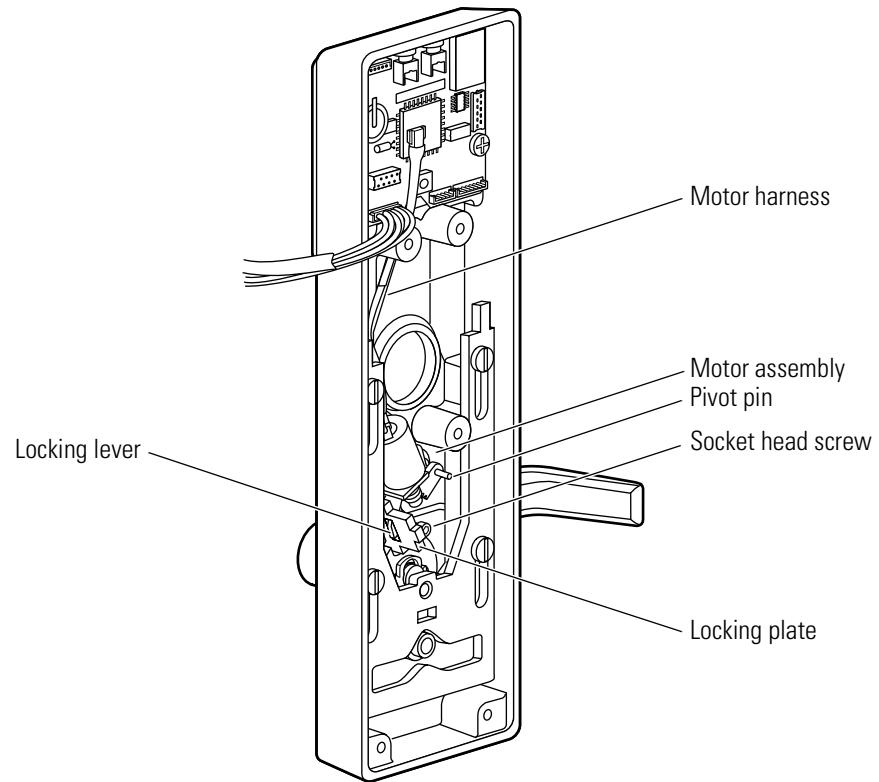

Figure 10.8 Routing the motor harness
2. Position the motor assembly in the escutcheon as shown in Figure 10.8. Make sure that:
4. Route the motor harness into the groove in the escutcheon, as shown in Figure 10.8.